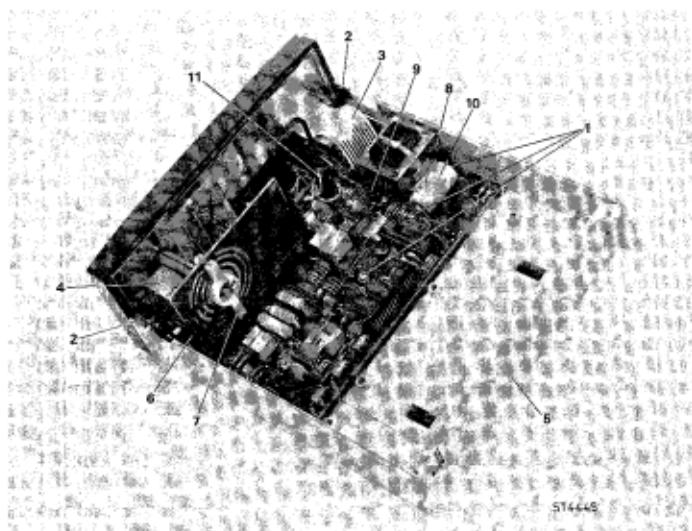

Fig. 5.2. Removing the bottom cover
Removing the bottom cover (Fig. 5.2.)
- Remove the three fixing screws which attach the printed circuit board to the bottom cover (Fig. 5.2. item 1).
- Bend out the two hooks of the front plate (Fig. 5.2. item 2).
- Disconnect the flexible print from the connector X1700 (Fig. 5.2. item 3).
- Disconnect X1702 (Fig. 5.2. item 4).